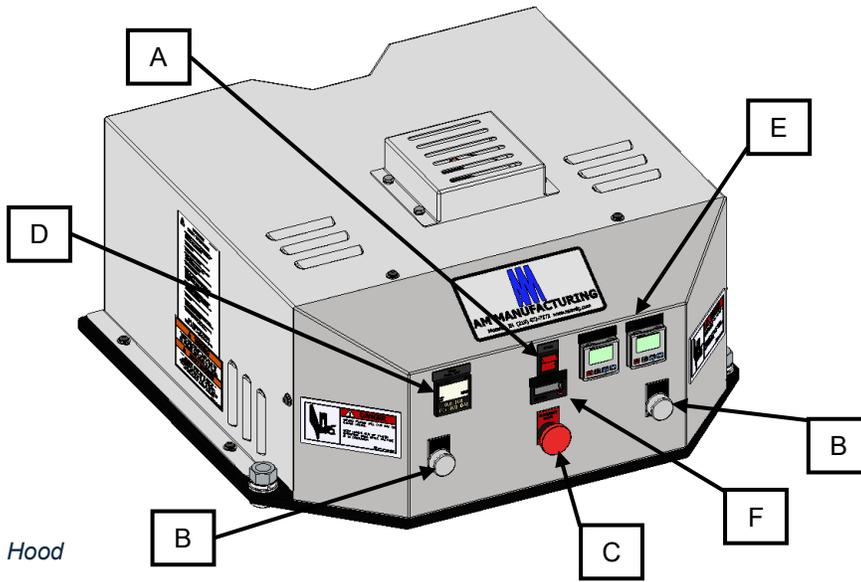

Figure 7: Machine Hood
- 2) Activate the machine’s power by depressing the red on/off switch (Figure 7, A) upward. When activated, this switch will illuminate.
- 3) Set the temperatures of both the upper and lower press platens (Figure 7, E) to 250 °F and allow the press to heat up to that temperature.
- 4) While the machine is heating up, set the dwell timer (Figure 7, D) to 5 seconds and the pressure regulator to 300 PSI.
- 6) Close the drawer to the pressing position and depress the two green start buttons (Figure 7, B). The hydraulic cylinder will activate, and the die will descend to the lower platen.
1. Turning the Little Toro on with the On/Off Switch (Figure 7, A.)
⚠ WARNING: If an emergency arises and something becomes trapped beneath the die while the machine is pressing, do not de-activate the machine's power! Doing so will "freeze" the die in position and the object beneath the die will remain trapped. Instead, depress the emergency raise button (Figure 7, C) and the platen will immediately rise safely out of the way.
3. The Platen Start Buttons (Figure 7, B.)
- As soon as the die begins its descent, the press dwell timer (Figure 7, D) will begin counting.
4. The Emergency Raise Button (Figure 7, C.)